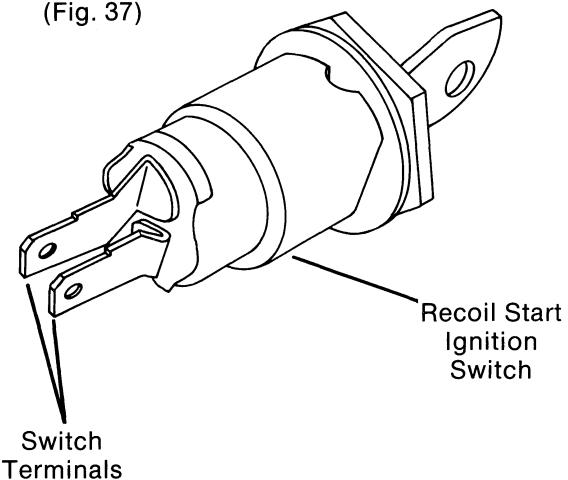

FIG. 37
- HH. Replace key into ignition switch and begin continuity test with switch in "OFF" position. (Fig. 37)